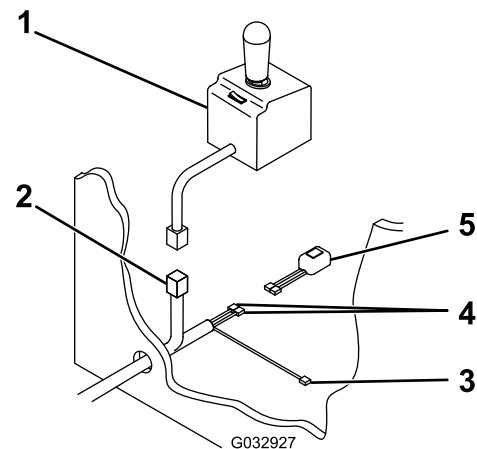

Figure 17
11. Pull the plow controller connector, black/red wire, and 2 black wires into the vehicle cab through the hole in the firewall (Figure 17).
12. Connect the 2 black wires to the headlight toggle switch (Figure 17).